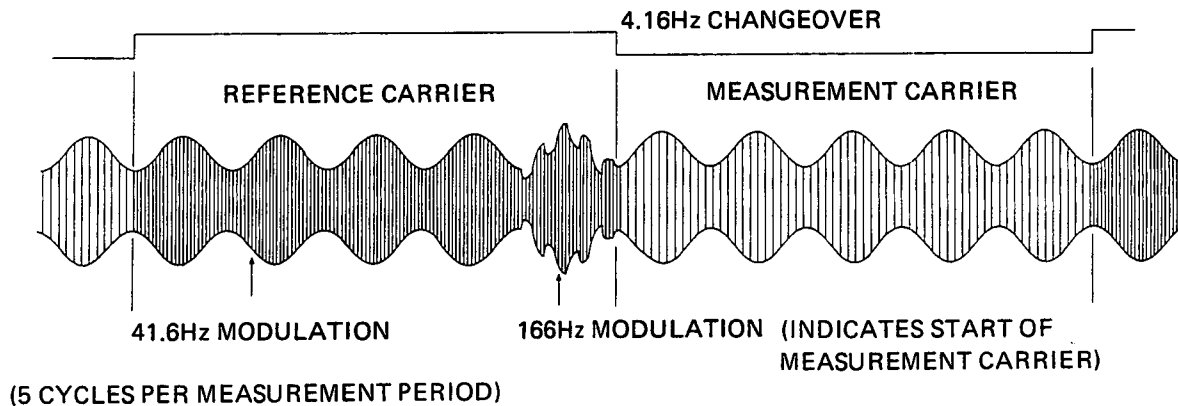

Figure A1-6 Example of Group Delay CCITT 0.81 Waveform (3776A)
A1-24 Group Delay (GD) Echo Return Loss (ERL) and Envelope Delay Distortion (EDD) signals are also produced by the Bit Slice Processor. A typical example of a GD signal is illustrated in Figure A1-6.